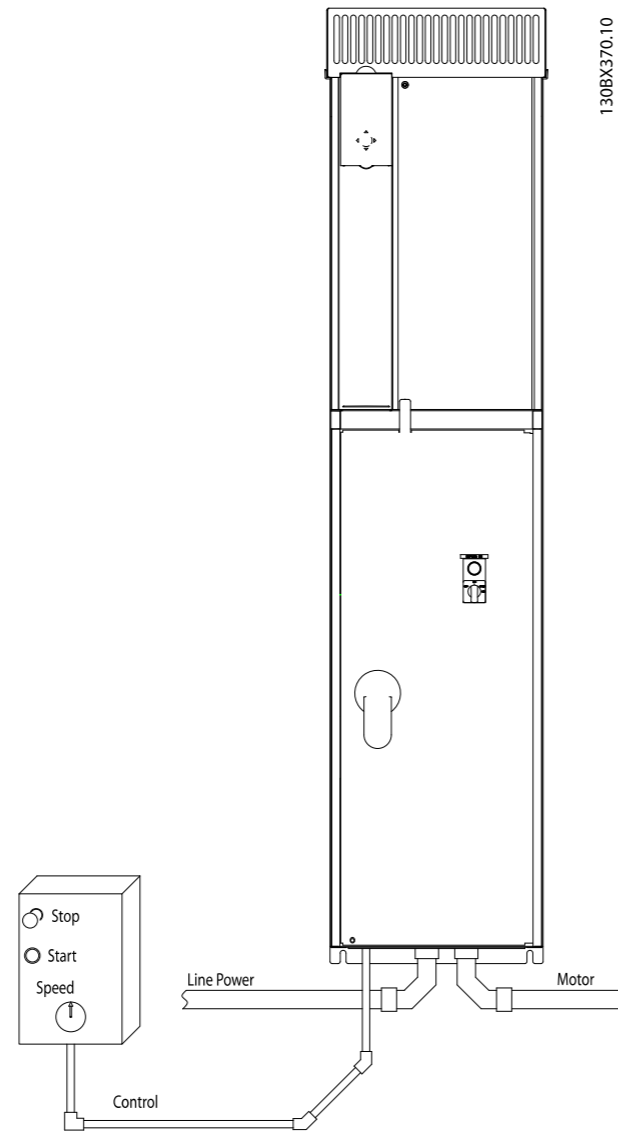

Figure 2.3 Example of Proper Electrical Installation Using Conduit
- Because the motor wiring carries high frequency current, it is important that wiring for mains, motor power, and control are run separately. Use metallic conduit or separated shielded wire. See *Figure 2.3*. Failure to isolate power, motor, and control wiring could result in less than optimum equipment performance.